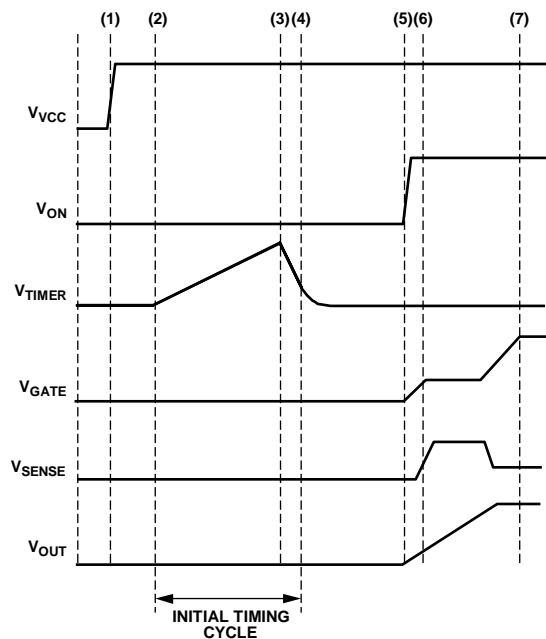

Figure 34. Startup (ON Asserts After Power Is Applied)
At Time Point (6),  $V_{GATE}$  and  $V_{OUT}$  have reached their full potential, and the load current has settled to its nominal level. Figure 34 illustrates the situation where the ON pin is asserted after  $V_{CC}$  is applied.